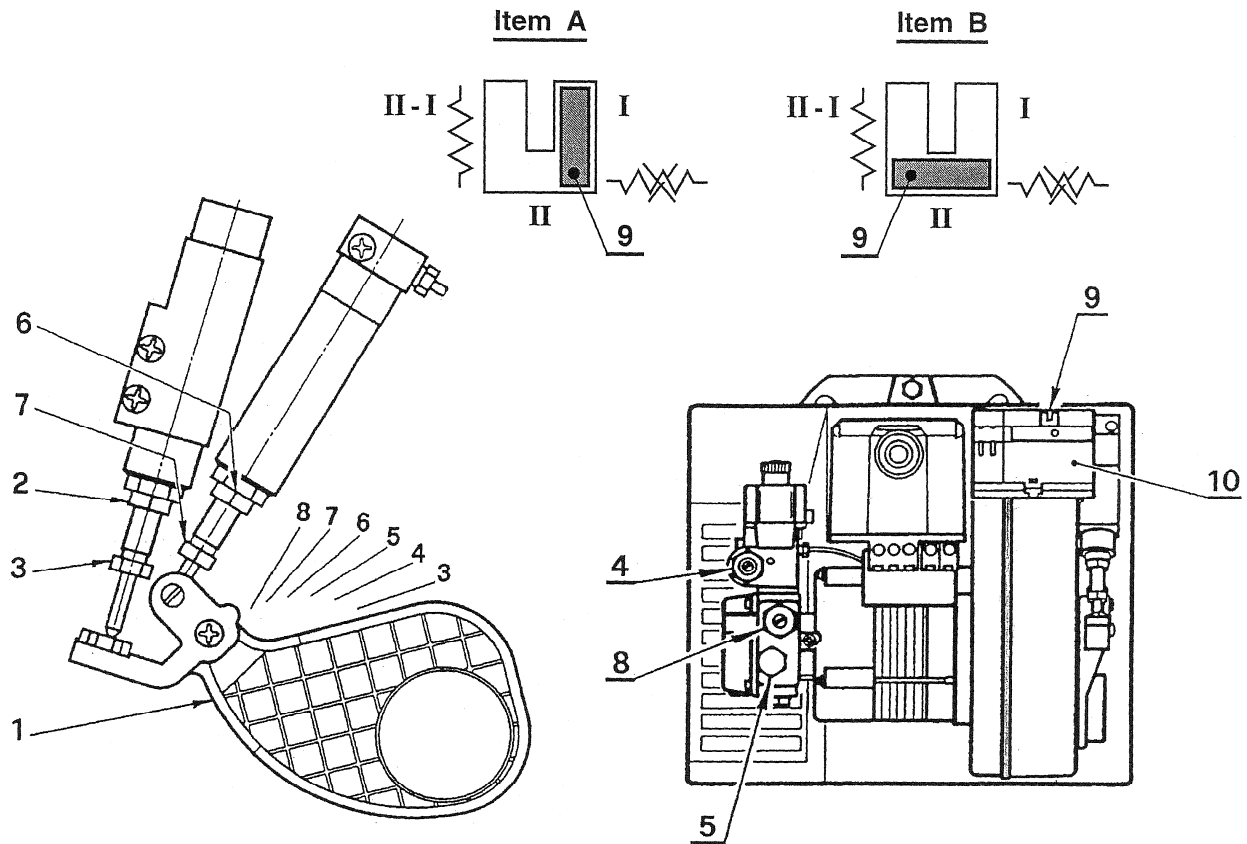

Figure 22
a. With the oil shut off, remove the 1/8 in. NPT threaded pipe plug located on the lower rear side of the oil pump, refer to Figure 22. Attach a pressure gage, capable of measuring pressure in pounds per square inch gage, PSIG, in this opening, on the discharge side, of the oil pump.